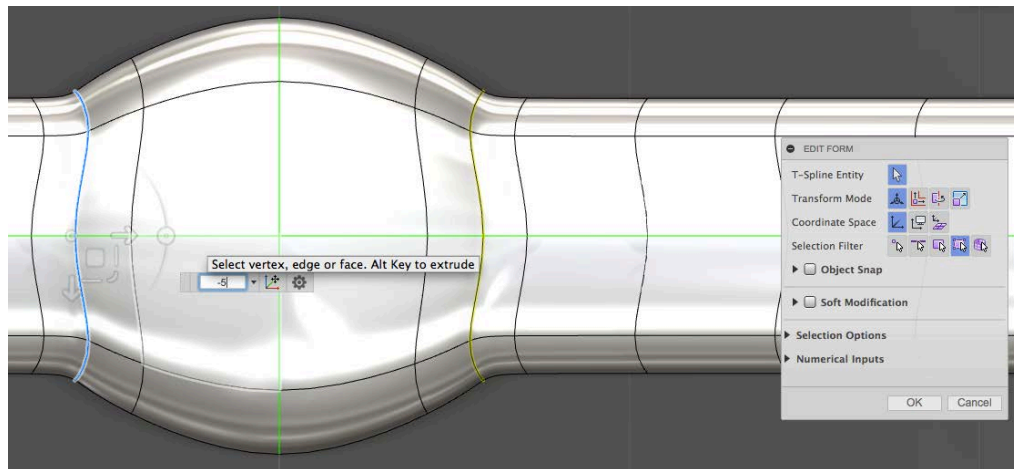

Fig. W05
- e. Change Selection filter to "edge", select one of the edges between case and bracelet, double click to select whole loop and scale/move as desired (Fig. W05).